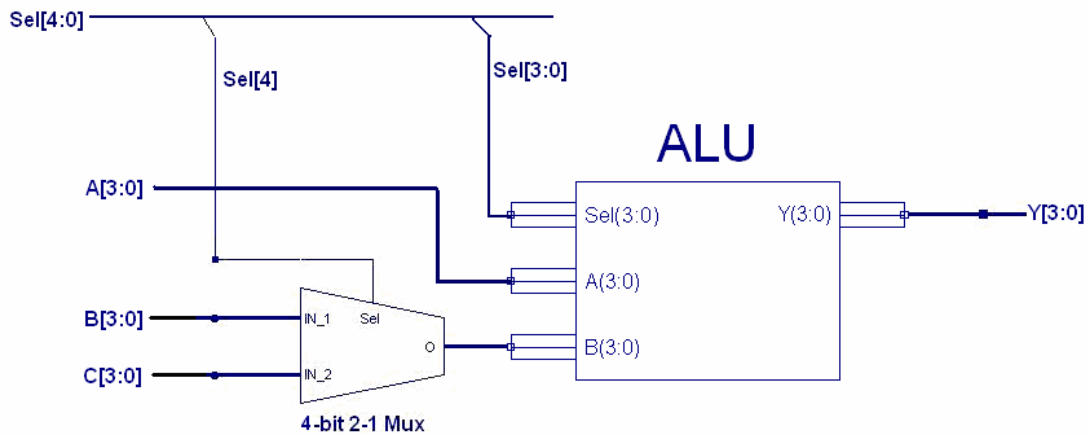

Figure 2: Block Diagram of an 4-bit Arithmetic-Logic Unit with a multiplexed input.
The diagram for the circuit to be implemented is given below in Figure 2. The design has 3 4-bit input busses and 1 4-bit output bus. 2 of the input busses pass through a 4-bit 2-1 multiplexer, before being connected to the B input bus of the ALU. One of these busses
7. In the *ALU_4bit.v* file, declare the top level module of the 4-bit ALU: *ALU_4bit*, listing and declaring properly all the input and output ports. There should be 3 4-bit wide input ports of type *'wire'* (for A, B and C), one 4-bit wide output port of type *'reg'*, (for Y), and one 5-bit input port (for the select lines S_4 through S_0). This module will implement the functionality described by Figure 2.